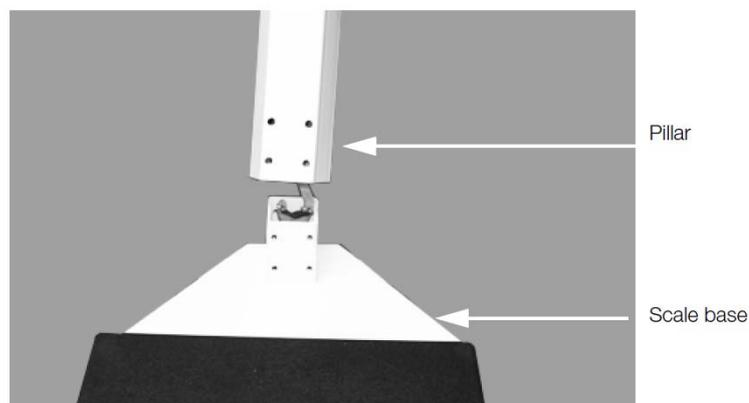

Figure 2. Attach the Pillar to the Scale Base
3. Insert the pillar into the scale base (shown in Figure 2), ensuring that the MEASURETEK logo on the weight beam faces the scale base.